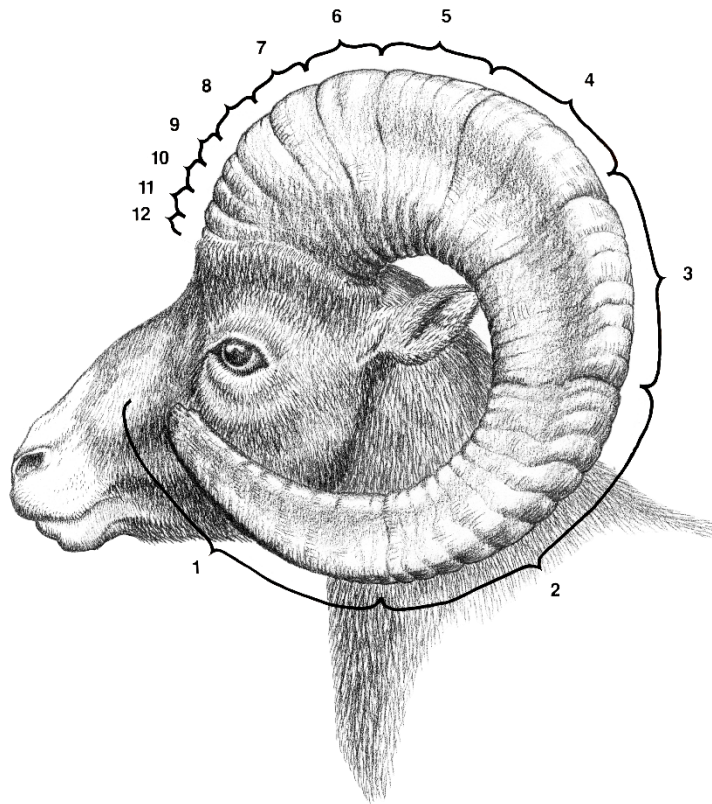

Figure 8 (from *Sheep and Sheep Hunting*, O'Connor, used with permission)
Rarely on the (C2) but more often on the (C3) measurements on some sheep, especially argali, the tape can create an air bridge because the inner horn forms a concave hollow. In such cases let the tape span over the hollow from one ridge to the next. The tape must not be pushed down to the horn to increase the circumference value(s). (Figure 8)
Figure 8 cross section horn at C3
3. Record the Age. This is a supplemental measurement. Carefully count the growth rings of the ram to determine its age. (Figure 8) Do not count rings that do not extend the entire circumference of the horn. Count the rings on both horns so that you can verify you have the right number. It is important to remember that hunting is a conservation tool, and, as such, hunters for mountain game seek to shoot old males.
Counting the rings (annuli) on markhorns, ibexes, true sheep, and many wild goats (*Capra*) is almost always possible. Growth rings are the result of the difference in the sheep's food intake during the winter and spring seasons: Horn growth slows during the winter season when food intake is lower and then accelerates again in the spring. Be careful not to count a ring that does not extend the entire circumference of the horn; these "false start" rings can be caused by better food conditions that occur temporarily late in the winter season. (See Figure 8, in the middle of year 4) Remember that the space between annuli should show a proportional reduction as the sheep grows older. Keeping this in mind will help with identifying true and false annuli. In sheep with heavily broomed horns, the first growth ring may no longer be there because it has been worn off; in that case still count it. This is only very rarely so for ibexes and markhorns. Whenever possible, measurers for the Rowland Ward record book should take the extra effort to determine the age of ibexes, sheep, and goats. These data will be published in *Rowland Ward's Records of Big Game*.